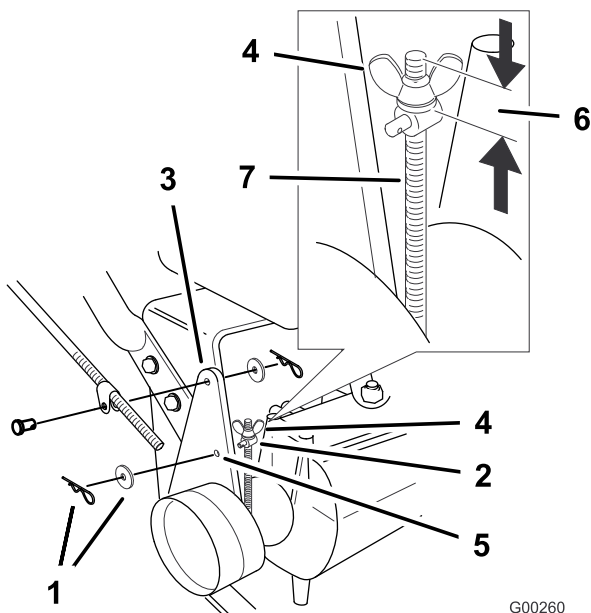

Figure 43
Note: For the initial adjustment, adjust the wing nut until it is 1-1/4 inches from the top of the rod (Figure 43).
5. To adjust the brake remove the hair pin cotter and washer from the brake lever and trunnion (Figure 43).
8. Install the trunnion into hole F (Figure 43). Tighten the wing nut.
9. Secure trunnion to brake lever with washer and hair pin cotter (Figure 43).